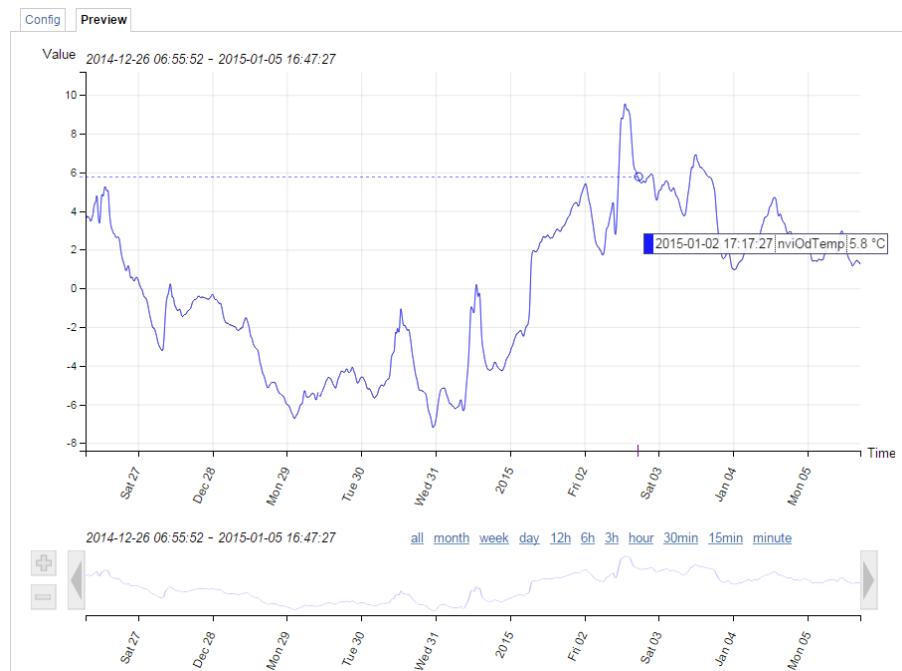

Figure 23: New trend chart on the Web UI
- The trend log configuration on the Web UI now also provides a preview tab, which shows a chart of the trend log data. The trend chart allows zoom, scrolling and hiding specific data curves, as shown in Figure 23.